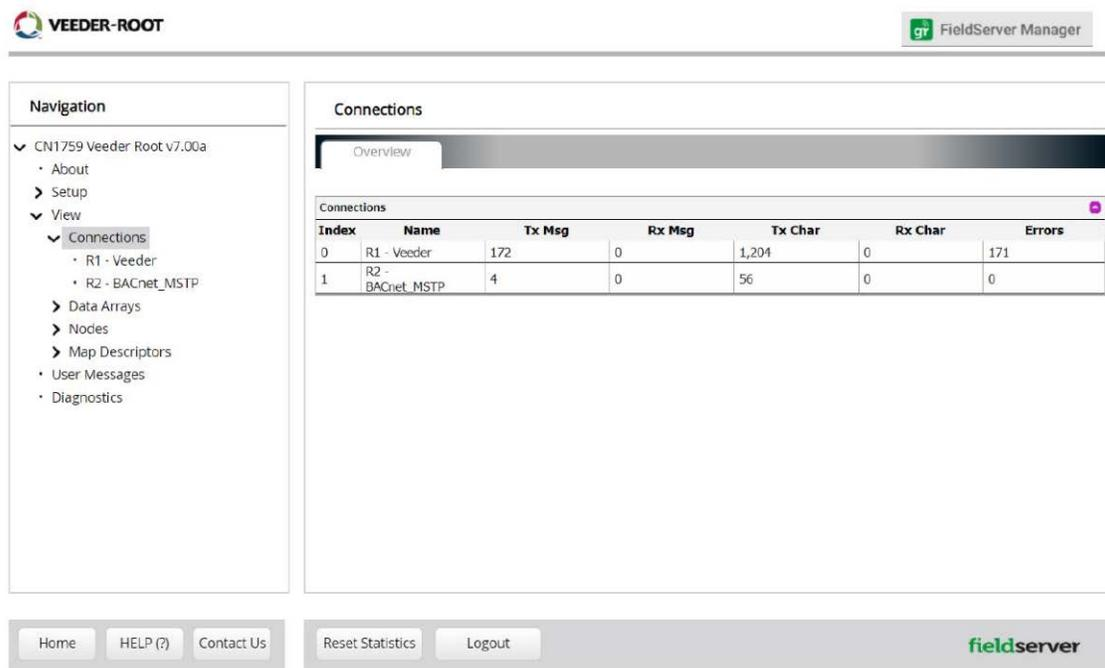

Figure 21. Error Messages Screen
- If there are any errors showing on the Connection page (see Figure 21), refer to “Checking Wiring and Settings” on page 21 for the relevant wiring and settings.